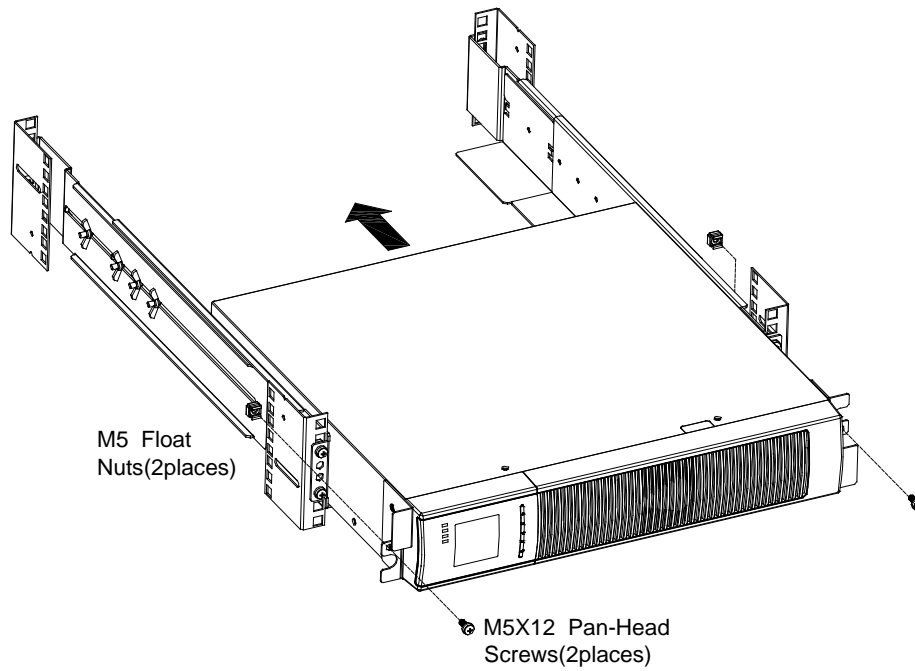

FIG.6 Securing the Front of the Cabinet
12. Secure the front of the UPS to the rack using one M5×12 pan-head screws and one M5 cage nuts on each side(see FIG. 6).Install the bottom screw on each side through the bottom hole of mounting bracket and the bottom hole of the rail. Repeat for any optional cabinets.